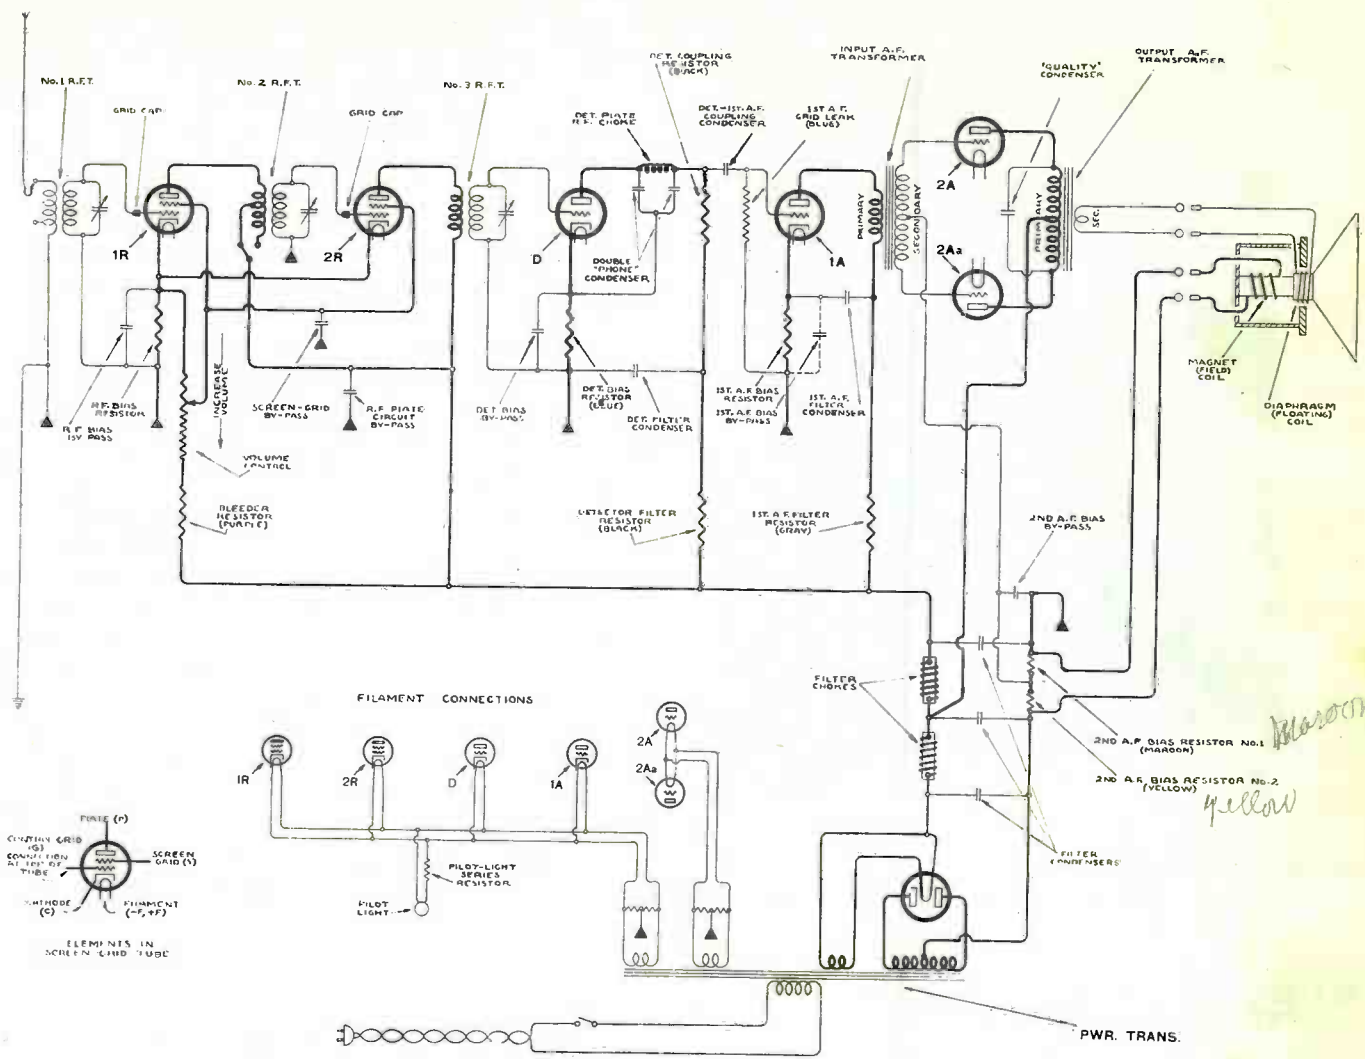
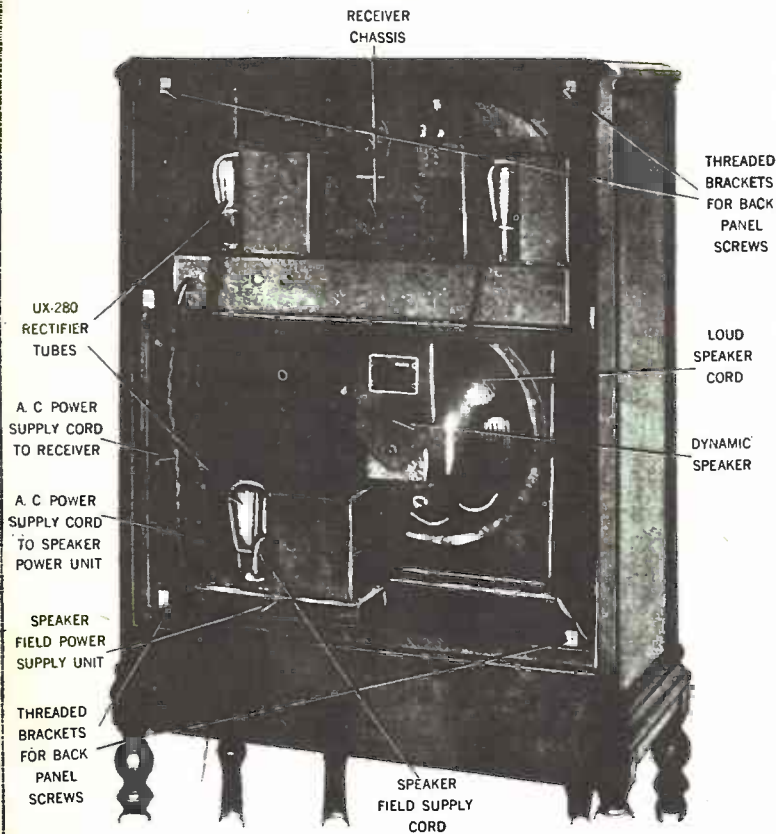

Fig. 48 - The Atwater Kent Early-Type Model 55 Set.
Fig. 49 - Rear view of #846 Stromberg Carlson Receiver.
(8) Field Supply. Field current for dynamics, in addition to the method previously described, in which the field coil forms part of the filter system of the set, is sometimes contained separately by rectified alternating-current or from the 110-volt D.C. line in D.C. installations, or from a storage battery. It is obvious that the rectifier-A.C. method is likely to cause the most trouble. In some cases the current is rectified by means of a vacuum tube such as the '80, giving a comparatively high voltage, and sometimes by means of dry-disc rectifiers, giving a low voltage. These two methods are shown in Figs. 46 and 47. Of the two methods, the vacuum-tube type of rectifier usually causes the least trouble. Sometimes the field is connected across the voltage divider of the set's power supply, as in the Atwater Kent "Model 55" set, as shown in Fig. 48. A filter is required in either case to reduce A.C. hum. Fig. 49 shows a typical speaker installation.